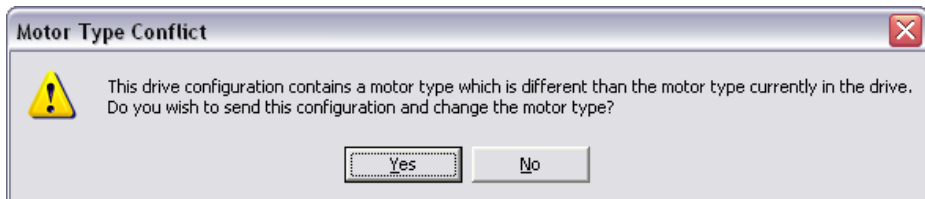

Figure 13. Motor Type Conflict
- The P7000 Tools configuration software downloads the new configuration data to your drive and performs an initialization process with the motor. You may see a dialog box such as the one in shown Figure 13 when the configuration data is about to download. Click **Yes** to continue the download process.